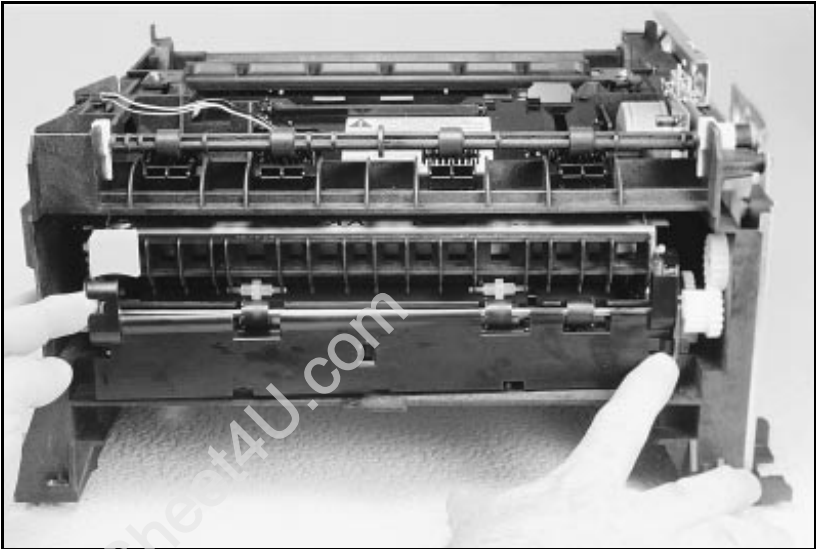

Figure 27 Removing the fuser cover.
2. Locate the black plastic fuser cover at the back of the printer. Press the release tab (callout 1 in Figure 27).
Figure 30 explains how to read the light sequences. The initial sequence (Part I) shows that ERROR 53 can be indicated by two different light sequences, depending on the X value: ROM (x =0) or in RAM (x =1) . Pressing GO and RESET/JOB CANCEL together produces a secondary light pattern, which reveals the Y- and ZZ-values, which complete the error code (Part II) . The binary Y value is read from the top two LEDS; the binary Z value is read from the lower three LEDS. Part III of Figure 27 shows the binary values of the different light combinations.